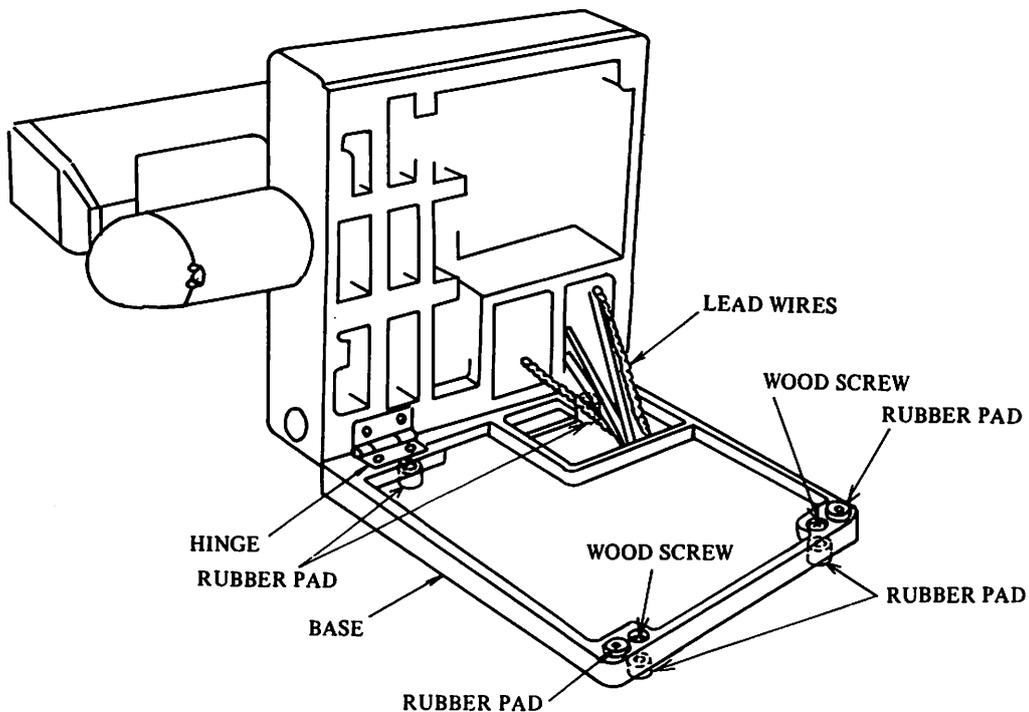

Fig. 2
- 3.1.3. Unpack the head and place it on the table as shown in Fig. 2. The head should be so placed on the table that each rubber pad enters the respective recesses provided in the base.